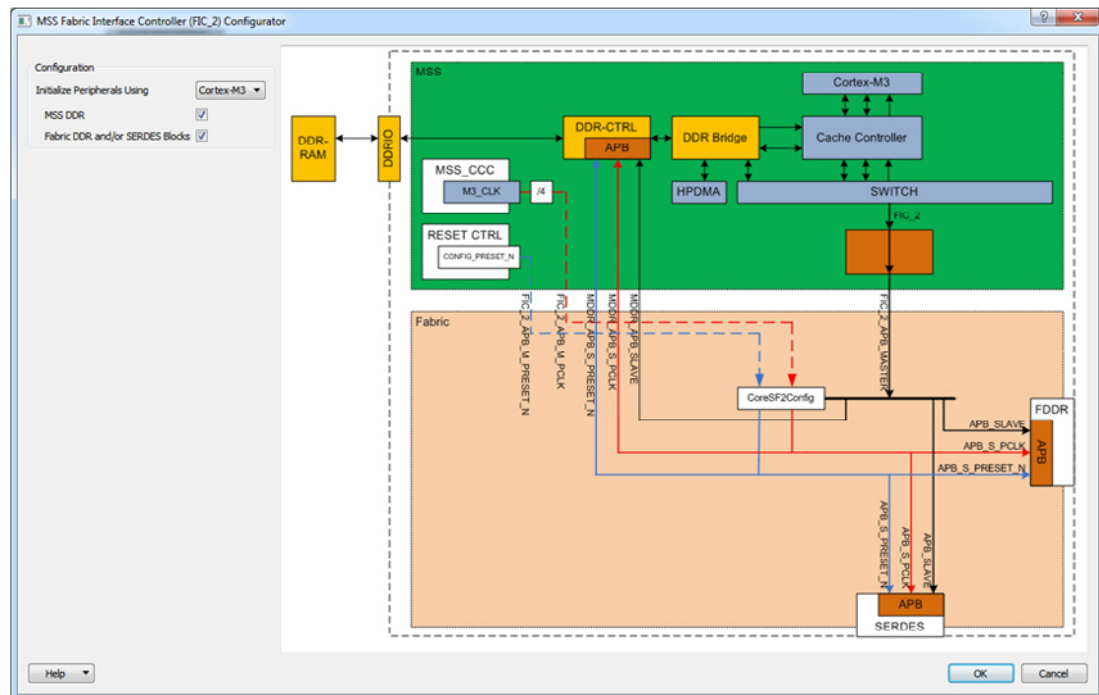

Figure 3-2 • MSS FIC_2 Configurator
1. Open the FIC_2 configurator dialog box from the MSS configurator (Figure 3-2).